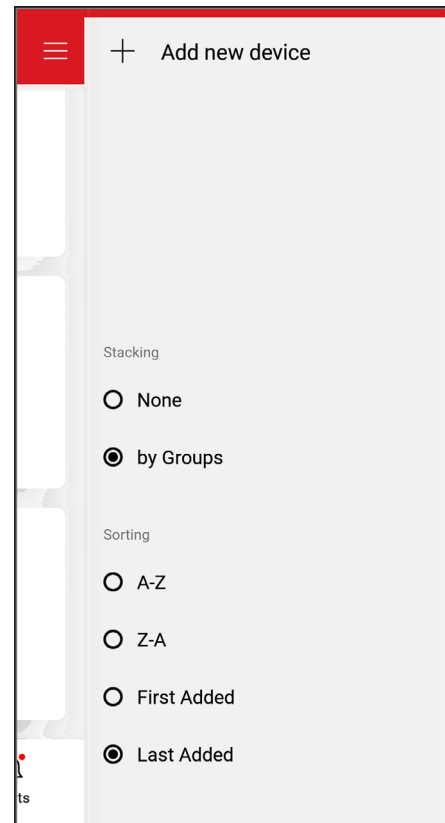

Figure 87. Add New Device
- In the iPhone mobile app, press the menu button  located at the top left corner of the screen, then press "+ Add new device". See **Figure 87**.